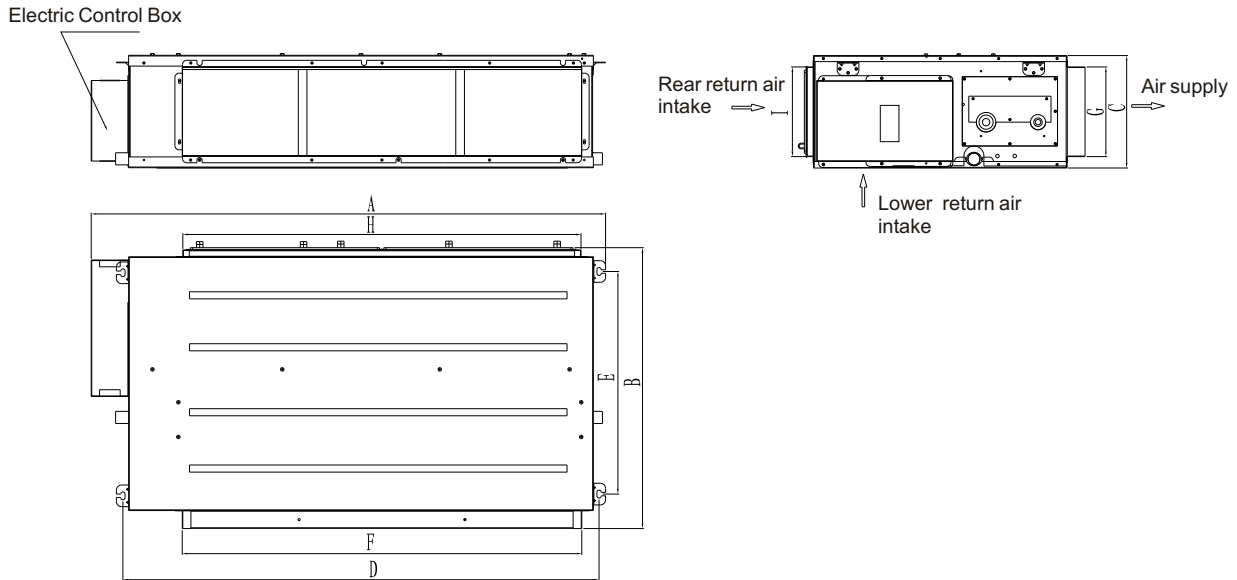

Figure 5
- (1) Sufficient strength to ensure that on top hanging parts to bear the weight of the unit.
- (2) Water is easily discharged from the drain.
- (3) Accessible in import and export, to maintain good air circulation.
- (4) In indoor unit, the install distance required in figure 5 must be ensured to make sure the space required by repair and maintenance is kept.
- (5) Away from place of heat, flammable gas leakage and smoke.
- (6) The machine is ceiling mounted (ceiling built-concealed installation).
- (7) Indoor, outdoor, power cord, connecting wires should keep at least 1 m away from the TV, radio. This is to prevent image interference and noise in above mentioned home appliances. (Even with a distance of 1 m, if the generated wave is strong, it may occur noises)